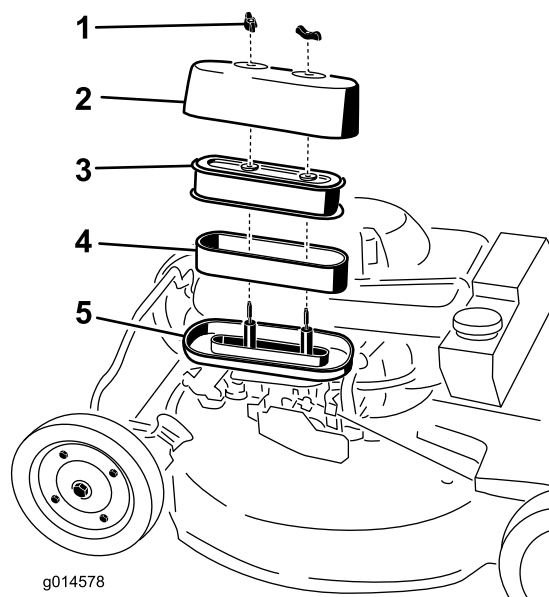

Figure 30
3. Remove the 2 nuts that secure the cover (Figure 30).
5. Remove the foam and paper elements from the base (Figure 30).
6. Remove the foam element from the paper element (Figure 30).